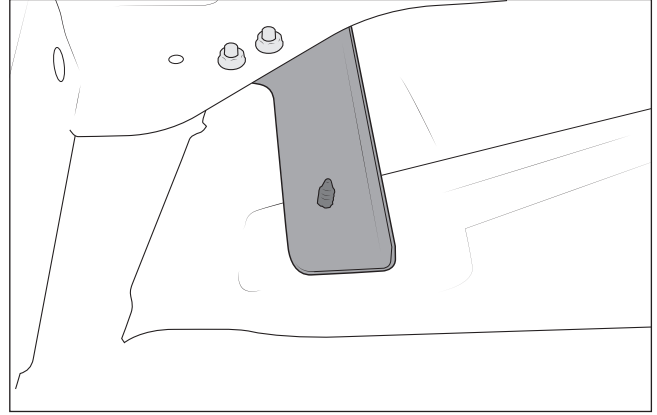

Figure 26
6. Driver side: Install bracket as shown using supplied hardware. Use hole in bracket to align drill bit and drill  $\frac{1}{4}$ " hole through wheel liner. Insert Christmas tree fastener through wheel liner side and through metal bracket to retain liner (fig. 26).